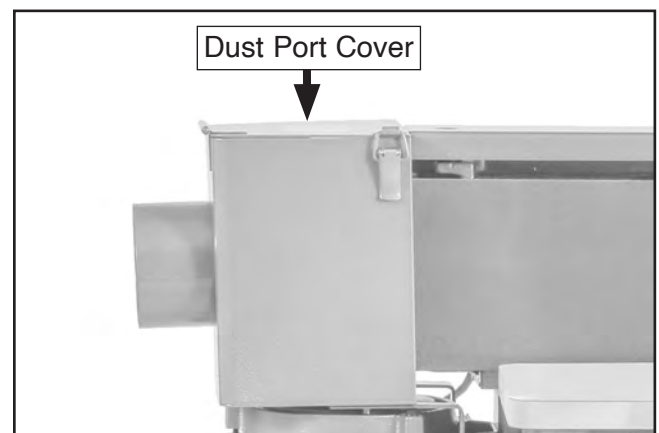

Figure 35. Location of dust port cover.
4. Unlatch and open dust port cover shown in **Figure 35**.